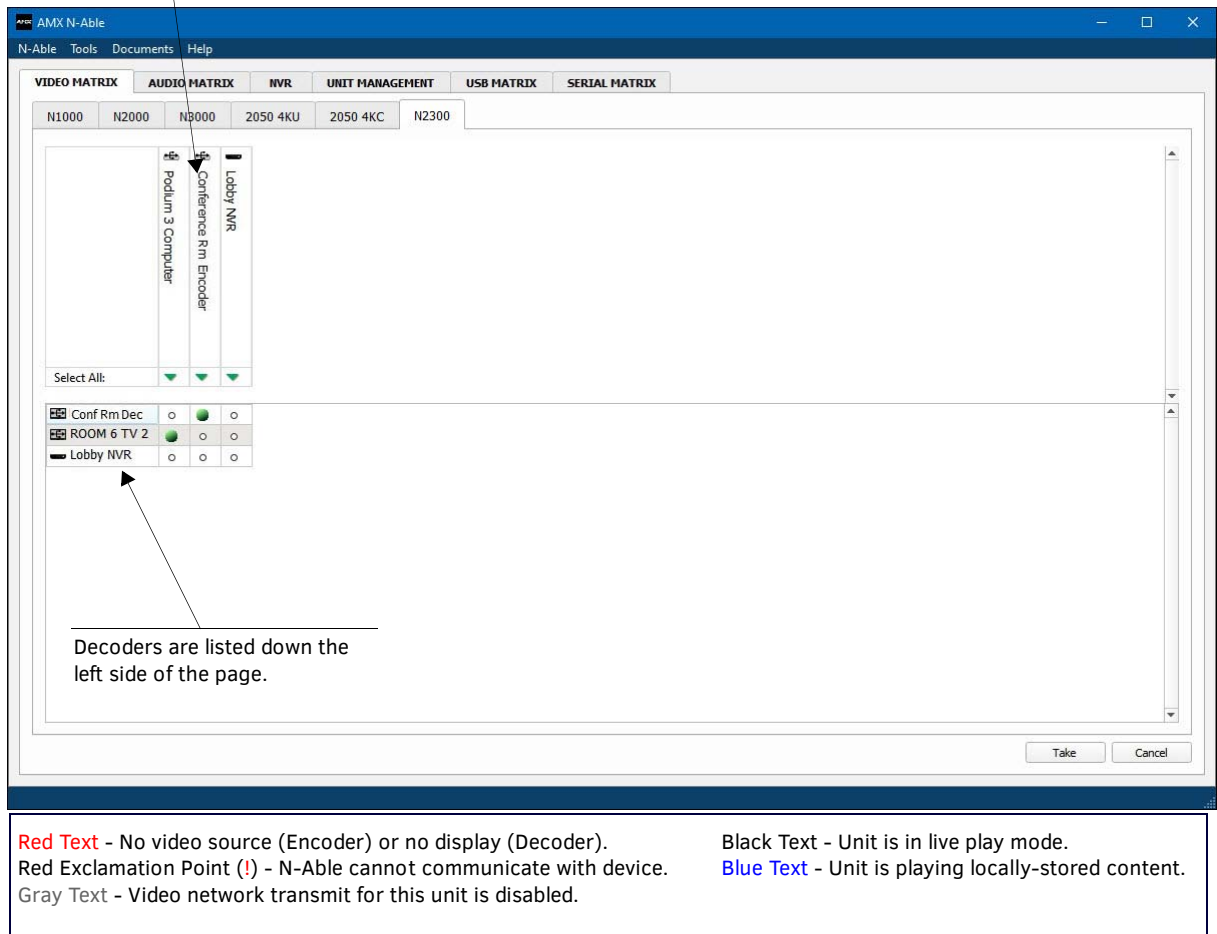

FIG. 11 Video Matrix Page
- Video Matrix** tab — N2300 units are found on the **N2300** sub-tab (as shown in Figure 11).